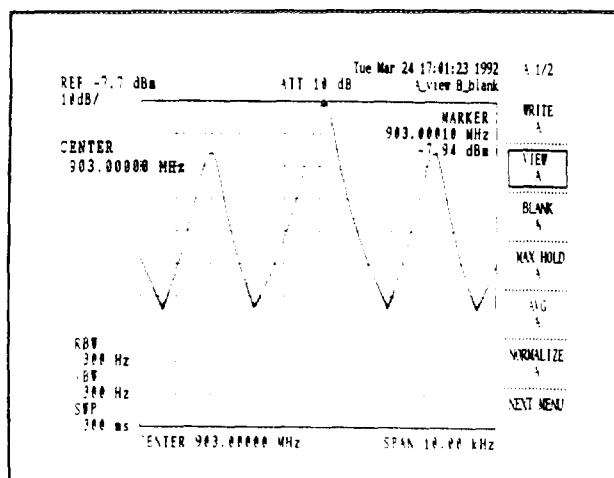

Figure 4-14 FM Signal f_c and E_c
- ② Write down the carrier frequency f_{C} (from the center frequency indicator) and the carrier level E_{C} (from the reference level indicator). (See Figure 4-14.)
- ③ Move the delta marker to the first side band and write down the frequency f_{SB} and level E_{SB} (from the delta marker indicator).